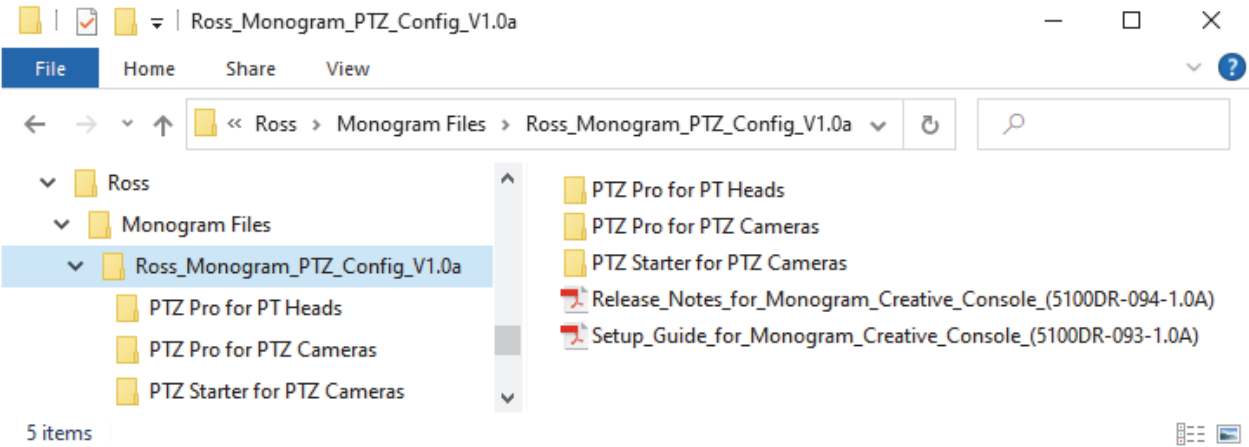

Figure 24 - Monogram Files Folder, showing Contents Extracted from a Monogram Files Zip Folder
- Extract the contents of the **Ross_Monogram_PTZ_Config_<version>.zip** file into the **Monogram Files** folder (**C:\Ross\Monogram Files**), as shown in Figure 24.